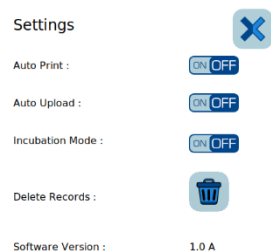

Fig. 5 System Settings
1. Select System settings from home screen, all the settings are displayed on the screen (Fig. 5).